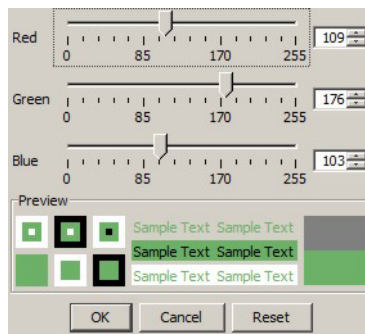

Figure 3-15 Custom Color Selection
- Select the clock color from the drop-down list. See Figure 3-15 for custom color selection.